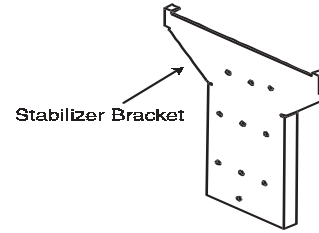

Figure 4
- Remove the stabilizer bracket (Figure 4).